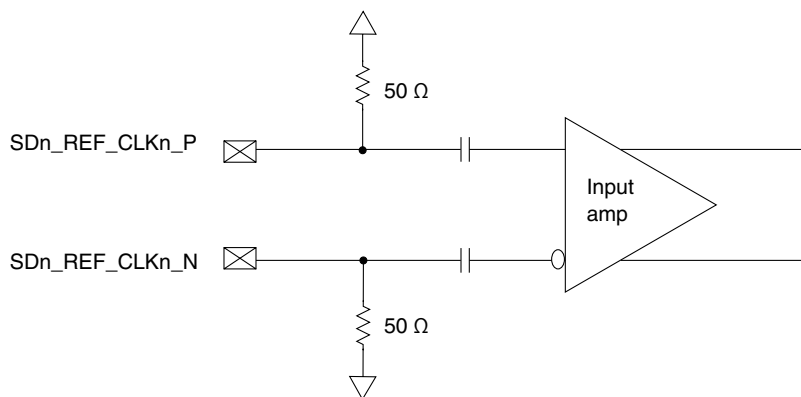

Figure 33. Receiver of SerDes reference clocks
- The $SDn_REF_CLKn_P$ and $SDn_REF_CLKn_N$ are internally AC-coupled differential inputs as shown in Figure 33. Each differential clock input ($SDn_REF_CLKn_P$ or $SDn_REF_CLKn_N$) has on-chip 50- Ω termination to $SGNDn$ followed by on-chip AC-coupling.